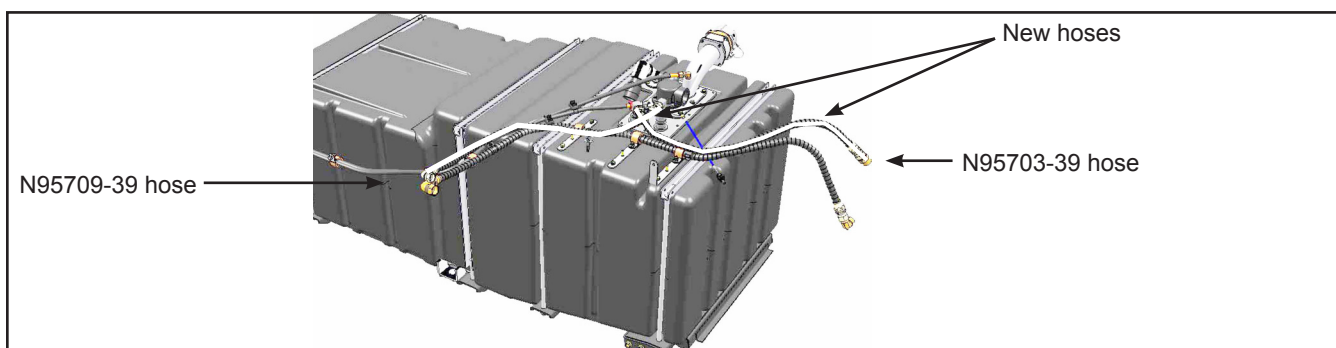

Figure 10 - New Hoses
- 1.16. Install the new fuel hose N95703-39 onto the new fuel tank. Apply white thread sealer, Loctite 565, or equivalent to the connectors. See Figure 10.
- 1.17. Install the new fuel hose N95709-39 onto the new fuel tank. Apply white thread sealer, Loctite 565, or equivalent to the connectors. See Figure 10.